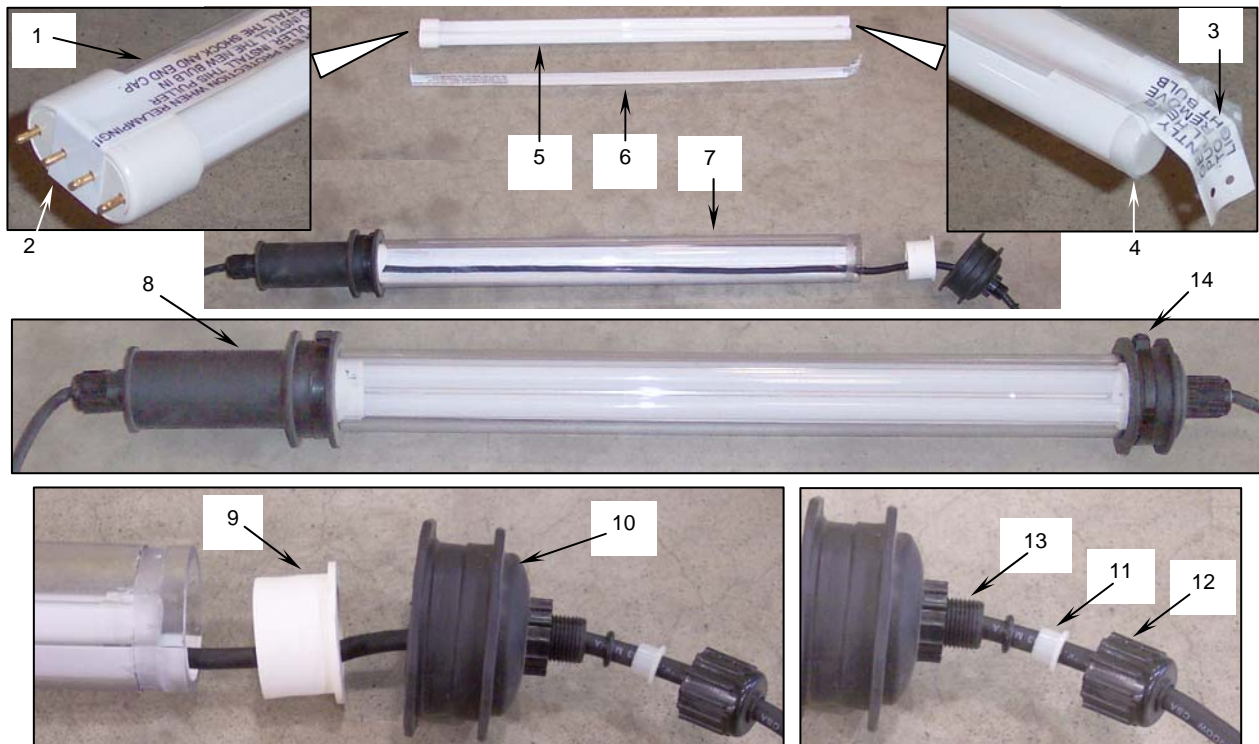

Figure 2. Installing the Bulb in the Electric Light.
- a. Install the end of the bulb puller with two holes in it (**Figure 2, Item 1**) over the two middle pins at the pin end of the new bulb (**Figure 2, Item 2**).
- b. Lay the bulb puller along the length of the bulb so that the tab end of the puller (**Figure 2, Item 3**) fits around the opposite end of the bulb (**Figure 2, Item 4**). This will assist in removing the bulb the next time.
- c. Slide the new bulb (**Figure 2, Item 5**) and bulb puller (**Figure 2, Item 6**) into the tube (**Figure 2, Item 7**) so the pins (**Figure 2, Item 2**) plug into the socket inside the tube at the handle end of the light assembly (**Figure 2, Item 8**).
- d. Reinstall the shock (**Figure 2, Item 9**).
- e. Reinstall the end cap (**Figure 2, Item 10**). Ensure the cap is completely seated in the groove of the tube.
- f. Reinstall the strain relief sleeve (**Figure 2, Item 11**) and nut (**Figure 2, Item 12**) onto the strain relief (**Figure 2, Item 13**).
- g. Secure the end cap to the tube with a new cable tie (**Figure 2, Item 14**).